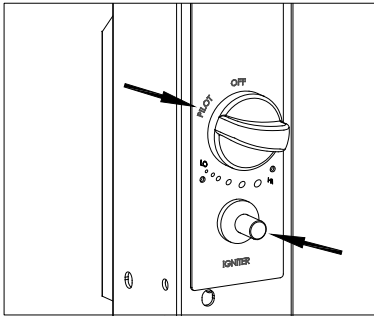

Figure 3
- Push in control knob and turn counterclockwise to "PILOT" (Figure 3) .